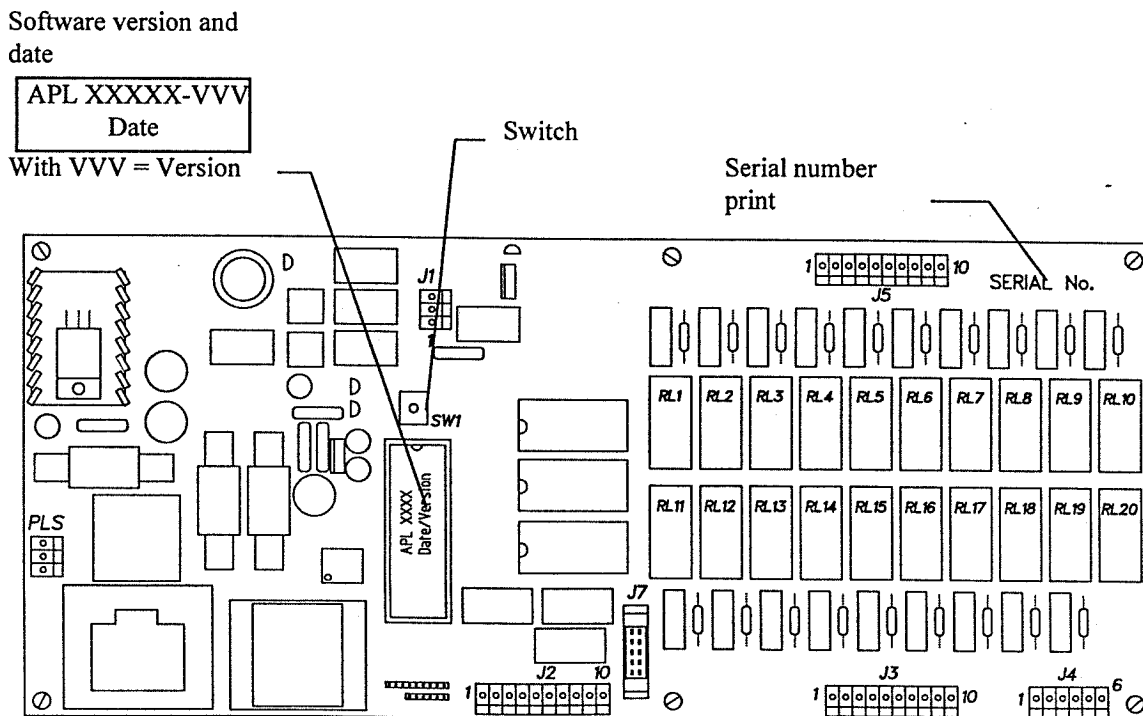

Figure 2: Printed circuit board
Every circuit board has a serial number and the code number of the board. See figure 2. On the microprocessor on the circuit board is stuck a label specifying the software number and version and/or the date of the software. See figure 2. These data, as well as the model and serial number of the machine, must be mentioned in all correspondence or inquiries addressed to the dealer or manufacturer.
First the SW1 switch (see fig. 2) on the back of the MKIIA LC board has to be set to the correct position. (Disconnect the machine power supply using the special disconnection device before adjusting this switch.)
When this has been done, wait until the middle display (C) begins to flash again: now you can change to coin slot 2 by using the **select** key. The display now shows the figure 2 (C) which represents coin slot 2; here you can change the coin denomination (DEF) in the same way as for coin slot 1.